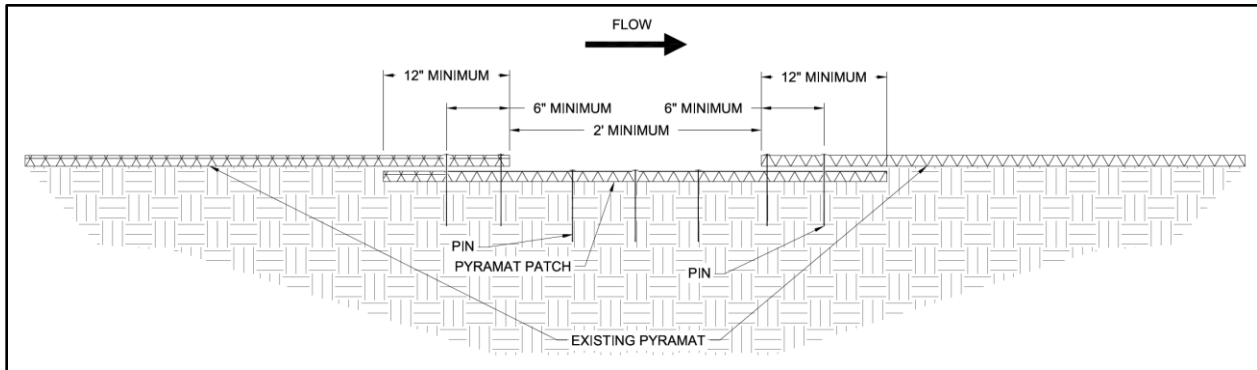
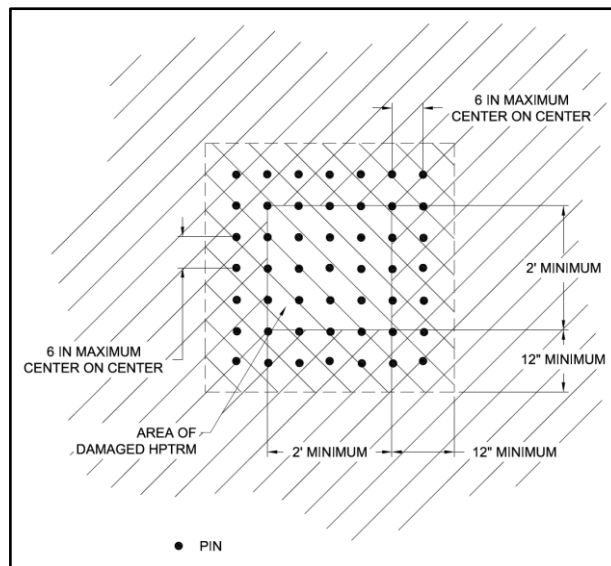

Figure 14: PYRAMAT Patch Cross Section
Figure 15: PYRAMAT Patch Plan View
- A. *Acceptable (A)* - The rated area is in satisfactory, acceptable condition, and will function as designed and intended during the rain event. PYRAMAT has no exposed edges, is installed tightly by maintaining direct contact to the slope surface with no rilling beneath, and has over 90% vegetation cover. There is no noticeable damage present.
- B. *Minimally Acceptable (M)* - The rated area has a minor deficiency that needs to be corrected. The minor deficiency will not seriously impair the functioning of the area during the next rain event; however, the overall reliability of the project will be lowered because of the minor deficiency. PYRAMAT has 75% vegetation cover with un-vegetated patches as large as one square yard. Edges of PYRAMAT are exposed with noticeable damage. Minimal erosion has occurred underneath PYRAMAT.
- C. *Unacceptable (U)* - The rated area is unsatisfactory. The deficiency is so serious that the area will not adequately function in the next rain event. PYRAMAT has been physically torn, ripped, or lifted from the slope surface. Less than 75% vegetation cover is present with un-vegetated patches being greater than 1 square yard, and there is evidence that erosion is occurring beneath PYRAMAT.
3. To repair PYRAMAT, cut out and remove damaged areas in a square configuration a minimum size of 2 ft by 2 ft. Remove all vegetation and debris atop of PYRAMAT. Loosen the top 1 to 2 in of soil in the patch area then seed. The subgrade of area to be patched shall be prepared to be smooth and uniform and transition smoothly into the in-situ area. Cut a square PYRAMAT patch a minimum of 12 in greater than the damaged area for all four sides of the patch. Overlap the patch area in all directions a minimum of 12 in. The patch overlaps shall be tucked under the existing damaged PYRAMAT material (Figure 14 and Figure 15)